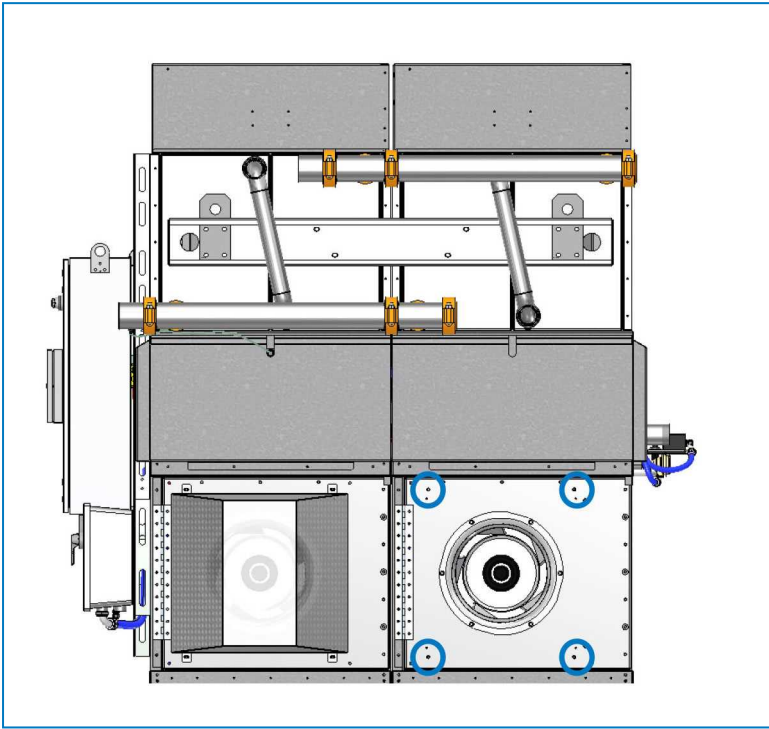

Fig. 24A Fan guard installation step 1
1. Remove the fastener from the EC fan system panel. The fastener will be reused in step 2. See figure 24A.